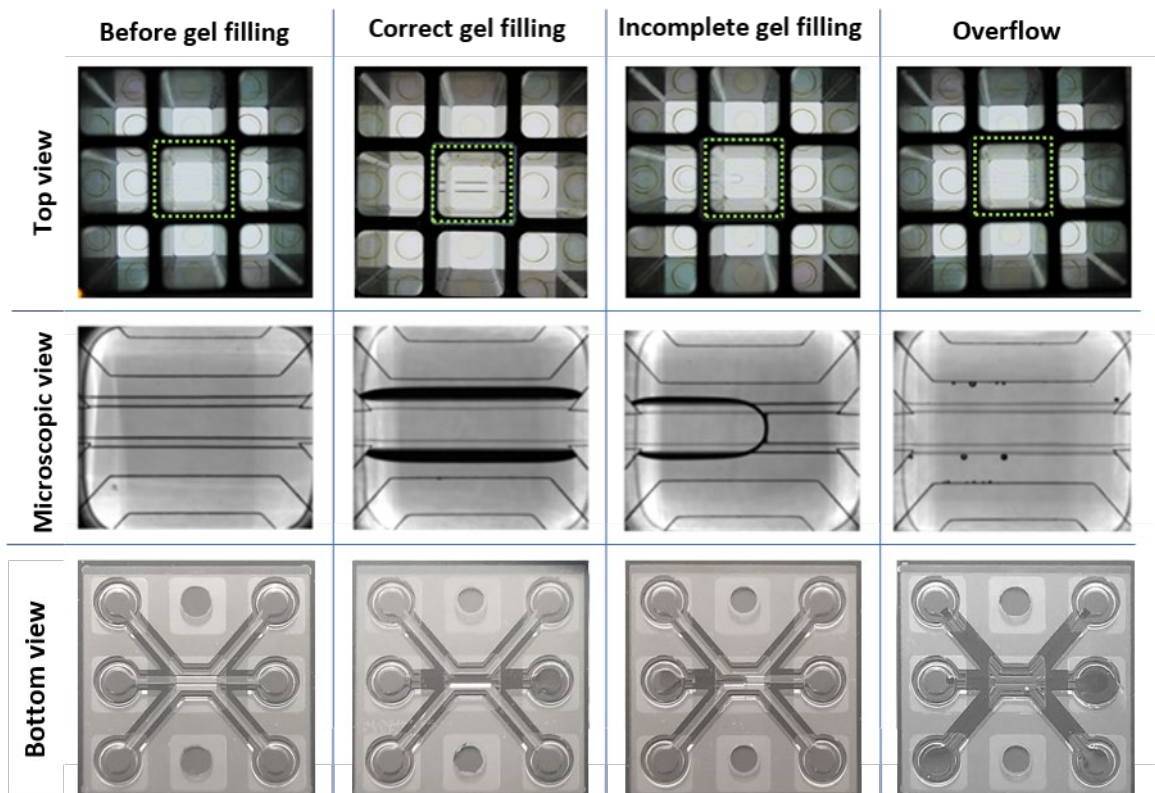

Figure 5: Overview of correct gel filling, incomplete gel filling, and overflow in the OrganoPlate® 3-lane.
5. For examples of correct gel filling in the OrganoPlate® 3-lane, see figure 5.